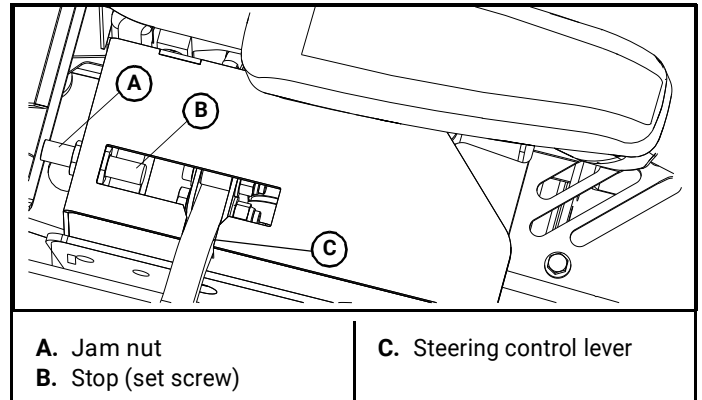

**Figure 4-5**
The steering control lever stops (see Figure 4-5 & Figure 4-6) are designed to do two things: first, and most important, they must keep the pumps from bottoming out internally. Secondly, the stops may be adjusted to help drive straight when the steering control levers are pushed forward against the stops.
3. If the pump arm is stopping the forward motion of the control arm, adjust the stop (set screw) inward to stop the steering control levers slightly before the pump bottoms out. After applying a threadlock (e.g., Loctite 290), turn the stop screw inward until contact is made with the inside of the steering cover, then turn the stop screw an additional 1/4–1/2 turn. Figure 4-5